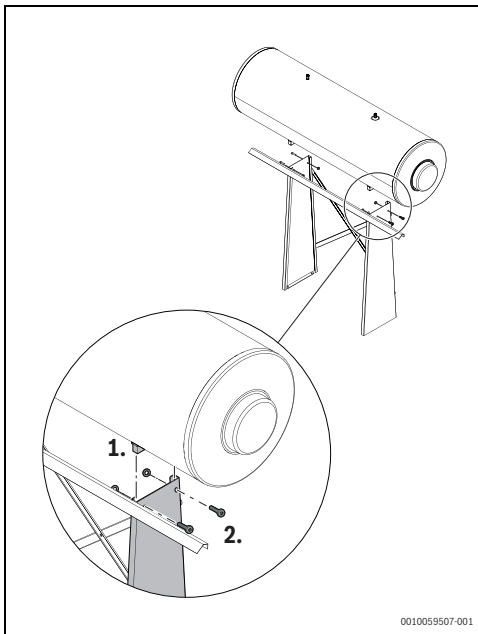

Fig. 14
- ▶ Position the storage tank with the pre-installed brackets on the top of the support structure. (see fig. 14).